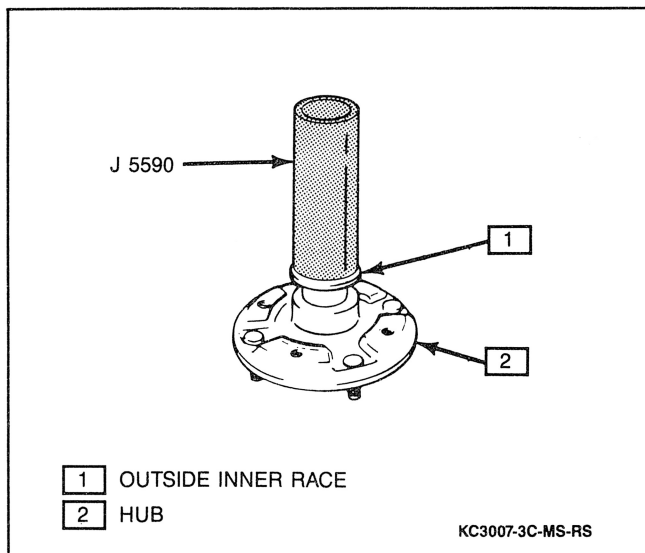

Figure 9 Outside Inner Race Installation
6. Outside inner race onto hub using a J 5590 outside inner race installer and a press (Figure 9).